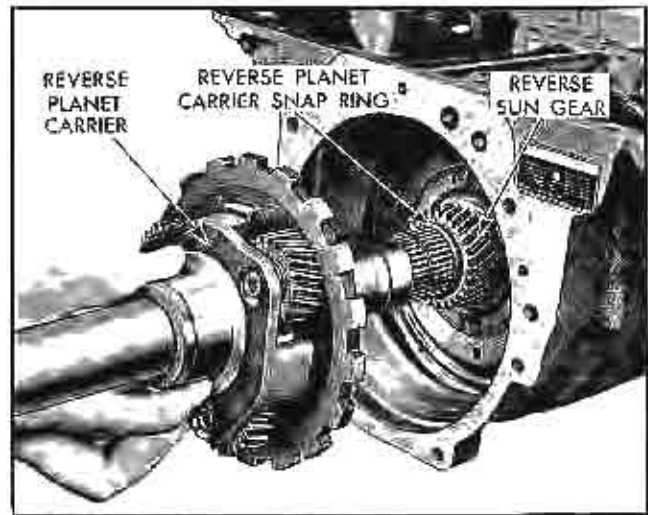

Fig. 151 Installing Reverse Planet Carrier
1. Install reverse planet carrier on output shaft, aligning splines and pinions (Fig. 151).